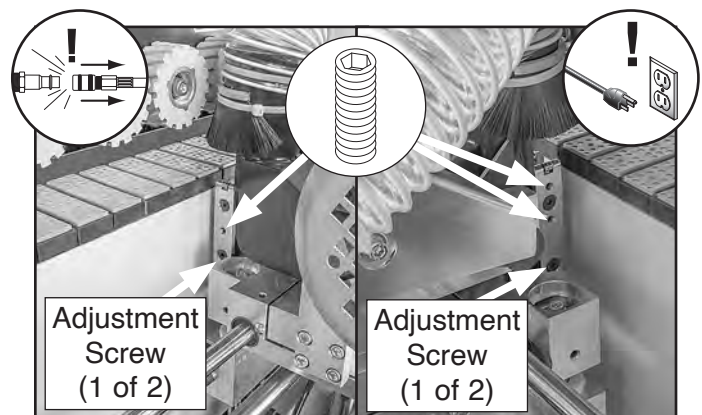

Figure 100. Location of tracer adjustment screws.
3. Loosen set screw(s) shown in **Figure 100**, then rotate (2) adjustment screws in equal amounts to adjust tracer.